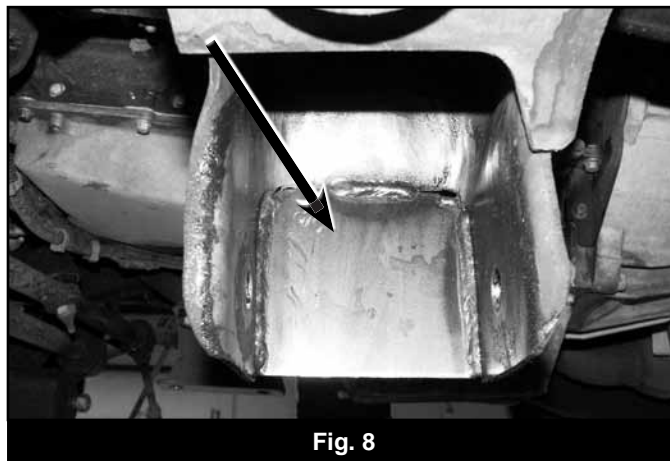

Fig. 8
25. With the back of the control arm pocket removed, clean the area free of paint and grease. Place the provided plate up to the back of the pocket and weld in place. (Fig 8) Let the area cool and coat with a rust preventative paint or undercoating. Undercoating is flammable. Keep a fire extinguisher close by for safety. Welding should be performed by a certified welder.